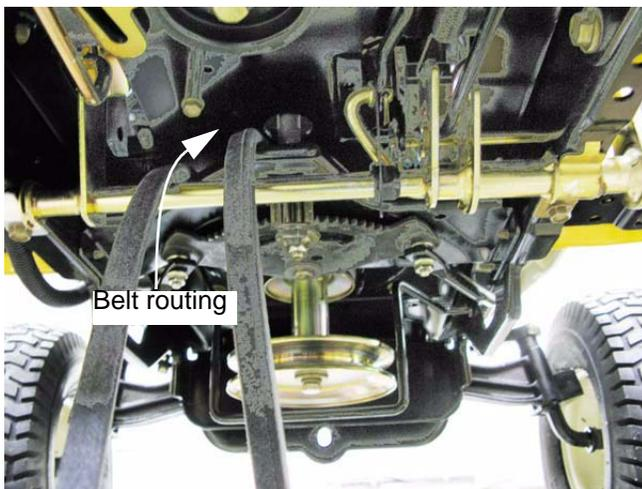

Figure 6.73
- The belt is routed to the left of the steering shaft, and the foremost keeper pin goes between the runs of the belt. See Figure 6.73.